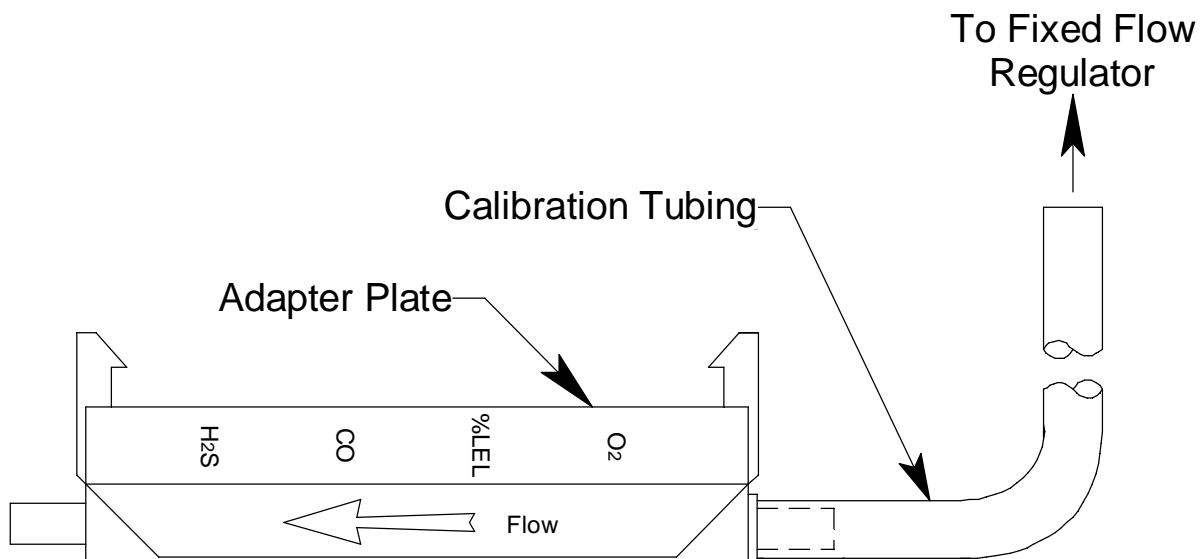

Figure 22: Calibration Kit Assembly
7. Use the calibration kit sample tubing to connect the calibration adapter plate to the regulator. Attach the tubing to the adapter plate on the inlet side as shown below in Figure 22.